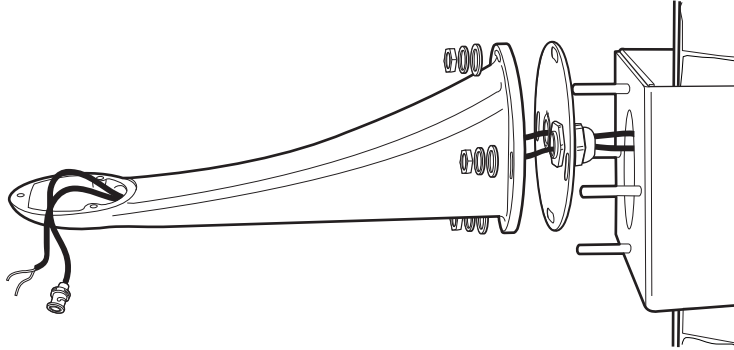

Figure 3. *Securing the EWM to the EPM or ECM100*
9. Use nuts, lock washers, and flat washers (supplied) to secure the EWM and the conduit plate to the ECM100 mount (refer to Figure 3).